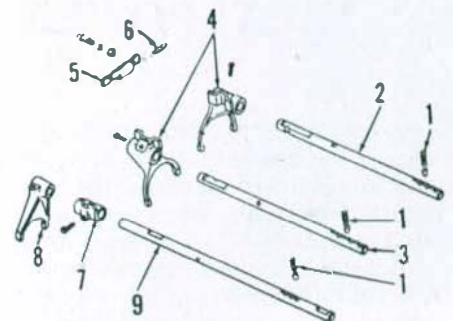

Fig. 146--Exploded view of transmission shifter rails, forks and associated parts typical of Multi-Power (12-speed) models.
transmission from differential housing, using paragraph 145 as a guide. It is not necessary to separate transmission from engine. Unwire and remove the set screws retaining selector and shifter forks to rails. Remove detent spring and plunger assemblies (1—Fig. 146) and stop plate (5), then withdraw shifter rails and forks from transmission case. Forks (4) are interchangeable, but rails (2 and 3) are not. Rails should be installed with milled flat to top rear and selector lock grooves to center. Interlock pin (6) prevents the movement of the other rail when either selector rail is moved from the neutral position.